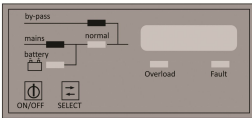
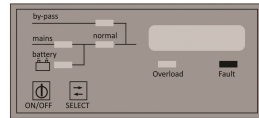

Figure 3.3
Figure 3.4
2. If the mains voltage and the frequency are within the limits, the *mains* and the *by-pass* LEDs will be on (Figure 3.3). If they are out of the limits, the *Fault* LED will be on and a warning beep will be heard (Figure 3.4).